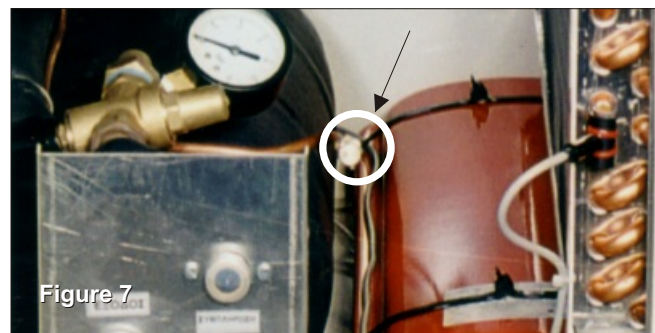

Figure 9
- During filling-up of the system, use the air vent installed in the unit to vent the system (Figure 9). Observe the water pressure on the manometer that is installed on the unit. Water pressure should not exceed 2,5 bar.